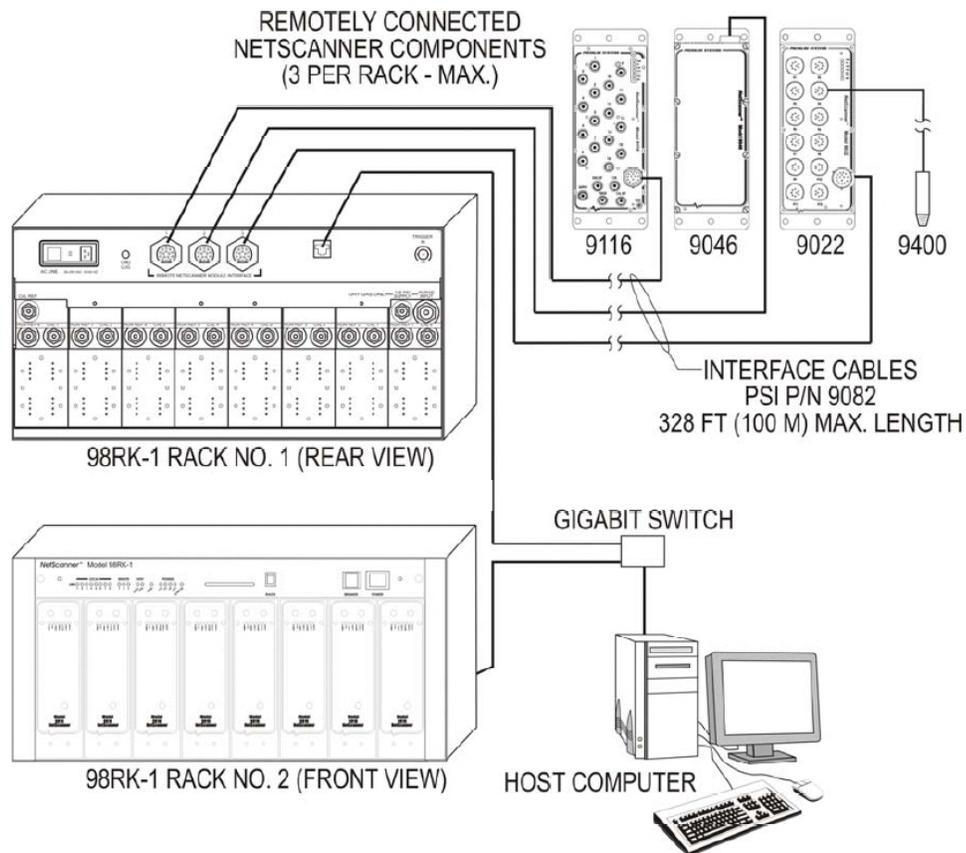

Figure 1.2
The **NetScanner™ System** is a comprehensive, distributed data acquisition system centered around PSI's proven Intelligent Pressure Scanner technology. The rackmount configuration of this system is comprised of **Model 98RK-1 Scanner Interface Racks**, each housing up to eight (8) **Model 9816 Rackmount Intelligent Pressure Scanners** networked via the Ethernet interface. The 98RK-1 chassis provides communication, power supply and pneumatic connections to the 9816 scanners. The 98RK-1 utilizes an integral gigabit switch to connect all scanners to a host computer. Each 98RK-1 can also provide power and communication to as many as three (3) remotely connected NetScanner modules such as the **Model 9116 Pneumatic Intelligent Pressure Scanners**, **Model 9022 All-Media Intelligent Pressure Scanners**, **Model 9046 Intelligent Temperature Scanners**, and **Model 903x Pressure Controllers**. Refer to their respective datasheets for more information on these NetScanner System components. A typical system configuration is shown in Figure 1.2.